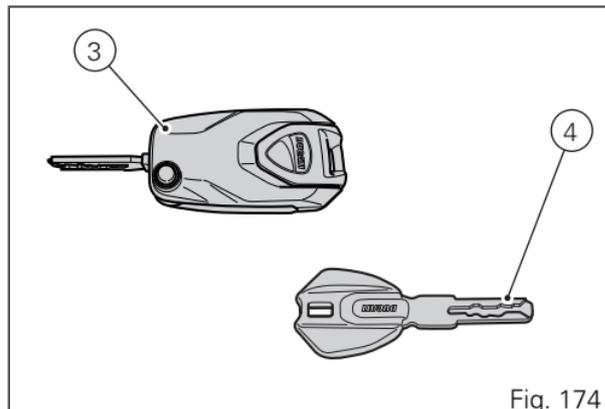

Fig. 174
Key-On can be performed by pressing button (6) on the handlebar and with the presence of the active key (3, Fig. 174).
Key-Off can be performed by pressing the button (6) on the handlebar. It can also be performed without the key (3, Fig. 174) only if motorcycle speed is equal to zero.
Key-On can be performed by pressing button (7) on the Hands free unit (1, Fig. 169) and with the presence of the active key (3, Fig. 174).
Key-Off can be performed by pressing button (7) on the Hands free lock (1, Fig. 169), also without the key (3, Fig. 174).
Key-On can be performed by pressing the red button (6) on the handlebar and with the presence of the passive key (4, Fig. 174).
Key-Off can be performed by pressing the red button (6) on the handlebar. It can also be performed without the key (4, Fig. 174) only if motorcycle speed is equal to zero.
Key-On can be performed by pressing button (7) on the Hands free lock and with the presence of the passive key (4, Fig. 174).
Key-Off can be performed by pressing button (7) on the Hands free lock (1, Fig. 169), also without the key (4, Fig. 174).
Key-On can be performed by pressing button (7) on the hands free lock (1, Fig. 169) without the presence of the keys (3, Fig. 174) and (4, Fig. 174) and entering the pin code on the instrument panel.